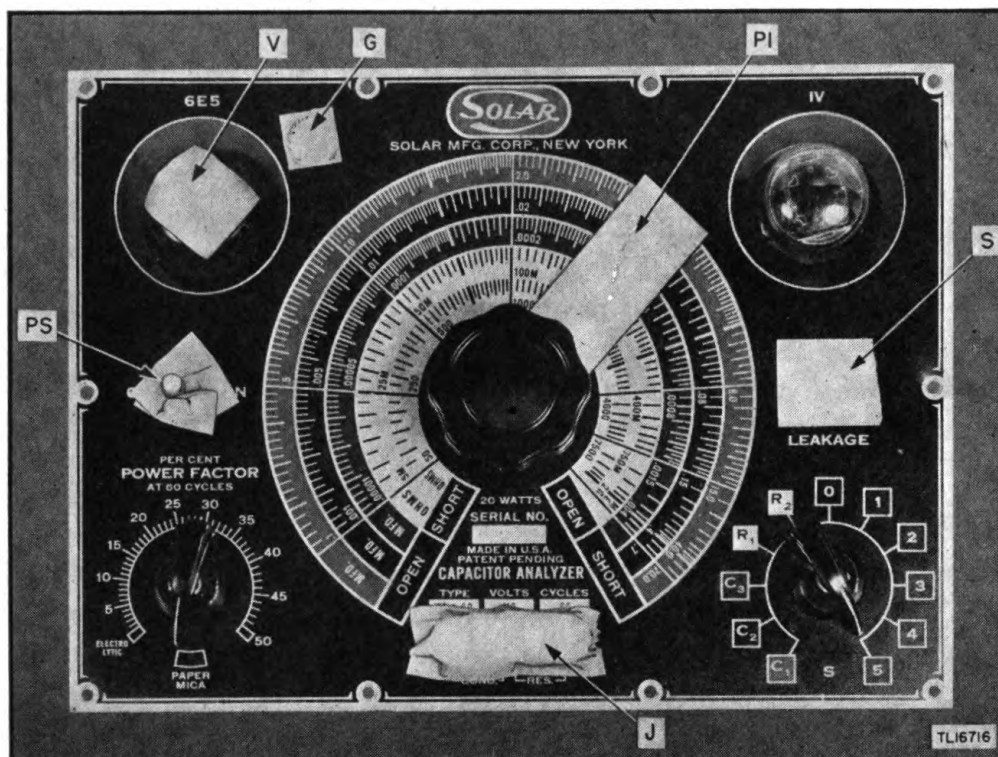

Fig. 9. Front of set, masked for moistureproofing and fungiproofing
Remove the capacitor leakage indicator lamp from the socket (S, fig. 9).
- A.C. power switch (PS, fig. 9).
- Capacitor leakage indicator lamp socket (S, fig. 9).
- Clear plastic indicator of main dial (Pl, fig. 9).
- Three test lead jacks (J, fig. 9).
- Top of 6E5 tube (V, fig. 9).
- Rubber grommet (G, fig. 9).